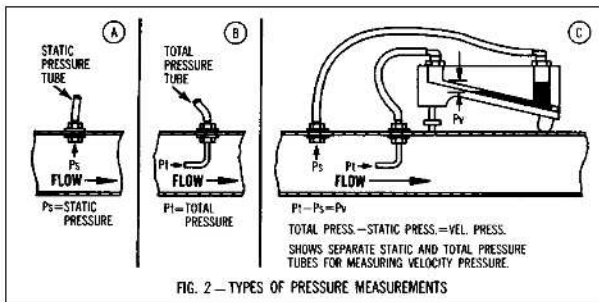

FIG. 2—TYPES OF PRESSURE MEASUREMENTS
In Figure 2, note that separate static connections (A) and total pressure connections (B) can be connected simultaneously across a manometer (C). Since the static pressure is applied to both sides of the manometer, its effect is cancelled out and the manometer indicates only the velocity pressure.